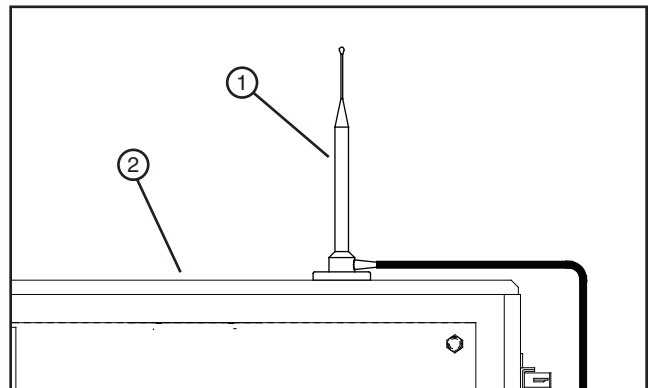

Figure 13-1
8. Mount magnetic antenna on top of control panel. See figure 13-1.